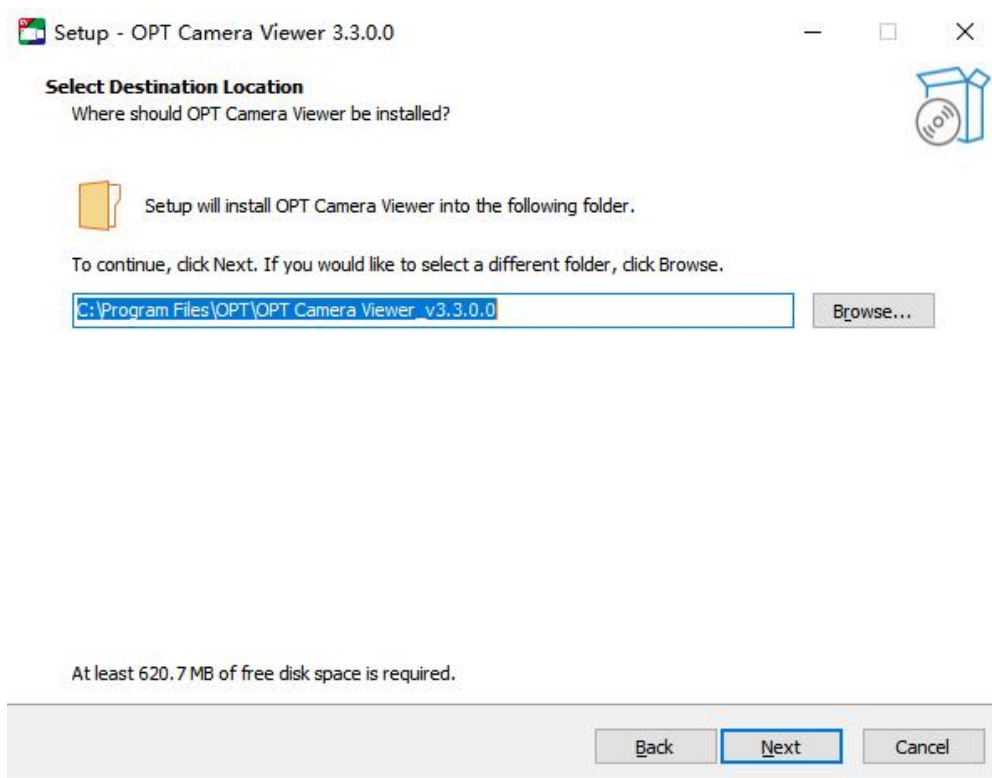

Figure 3-4 Installation folder window
5. Enter the installation folder window as shown in Figure 3-4, select the software installation path